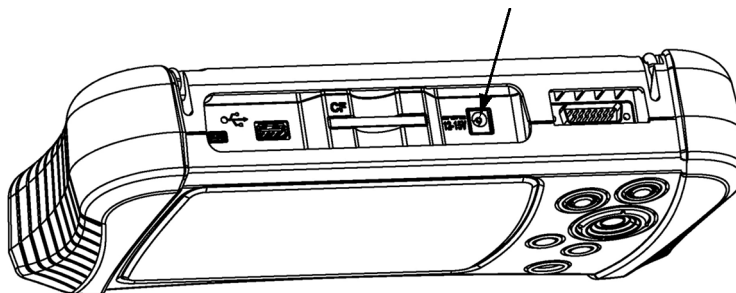

Figure 3-8 DC power supply input
1. Plug the 2.5 mm end of the AC/DC power supply cord into the DC power adapter input on the top of your scan tool (Figure 3-8).